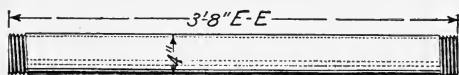

Fig. 99
**Reading Measurements.**—There are two dimensions which should be marked on pipe sketches—the size of the pipe to be cut and its length. The size of pipe is marked crosswise on the pipe, as shown by the dimension 4" in Fig. 99,
**End-to-End Measurements.**—The method of measuring the lengths of pipe and the way the measurements are indicated on a pipe sketch are shown in Figs. 99, 100 and 101. In Fig. 99 the measurement, which is from end to end, is indicated by the abbreviation E-E. End-to-End measurements may be from the end of a pipe to the end of a fitting screwed thereon; it may be over all from the end of a fitting screwed on one end of a pipe to the end of another fitting screwed on the other end of the pipe, or it may be a measurement over several pieces of pipe and several fittings from extreme end to extreme end.